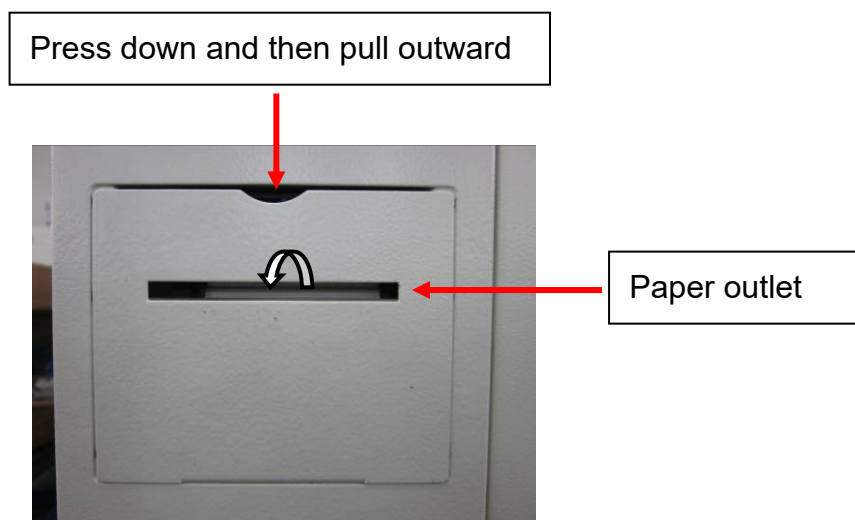

Figure 160
- B. Press down and then pull outward the rim of the printer cover (See Figure 160).